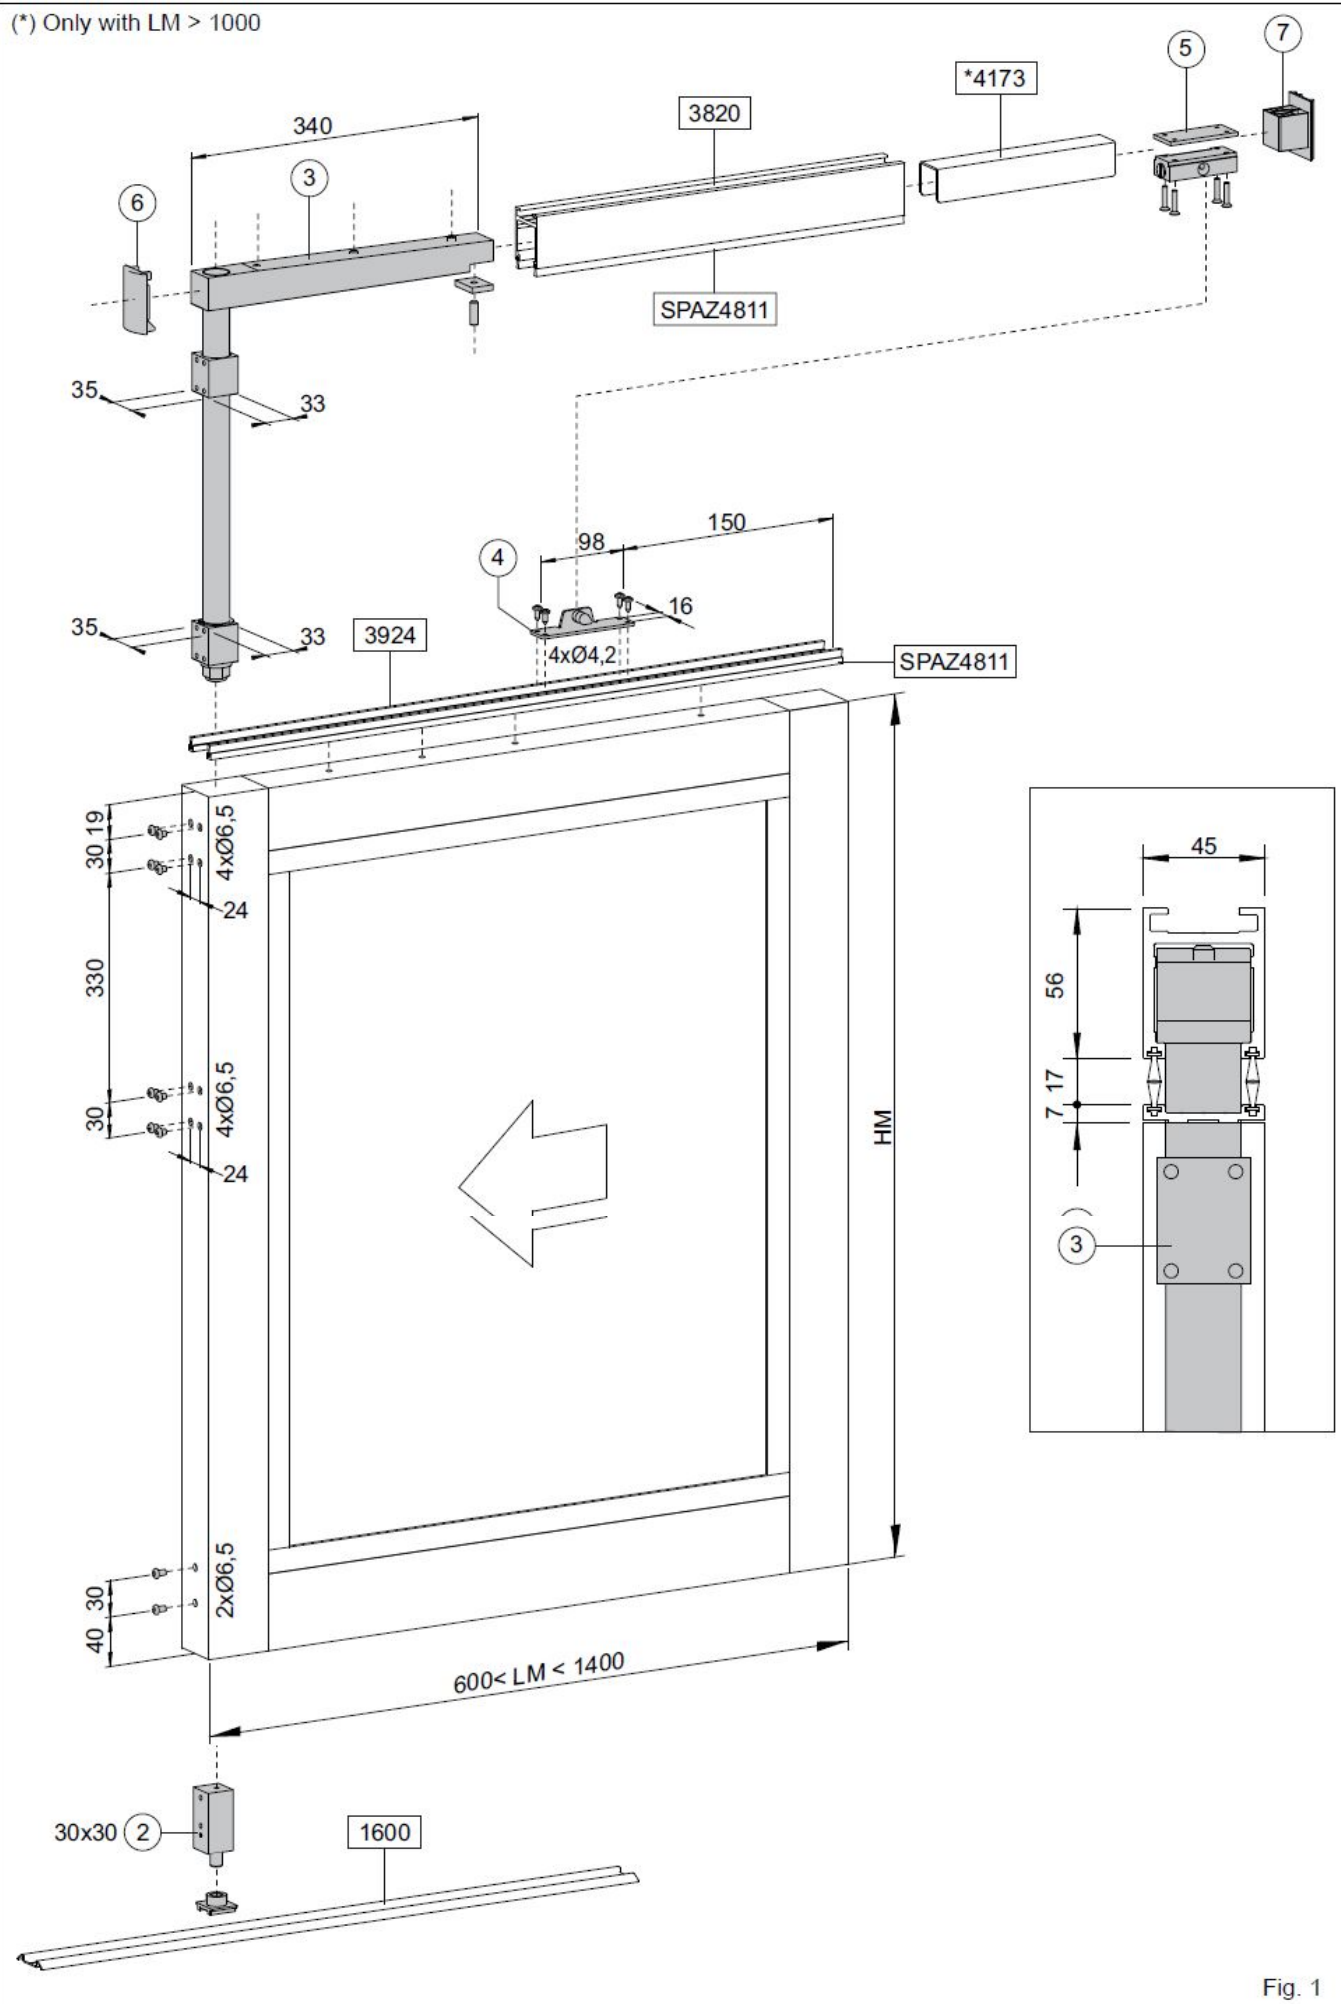

Fig. 1
- If the width of the mobile panic wing (LM) is greater than 1000 mm, add reinforcement 4173 (see fig. 1)
- If the width of the mobile panic wing (LM) is greater than 1200 mm, add reinforcement the third carriage.
- If the weight of the mobile panic wing is greater than 90 kg, add kit KAS45 to the lower portion (see ref. 1\*\* fig.